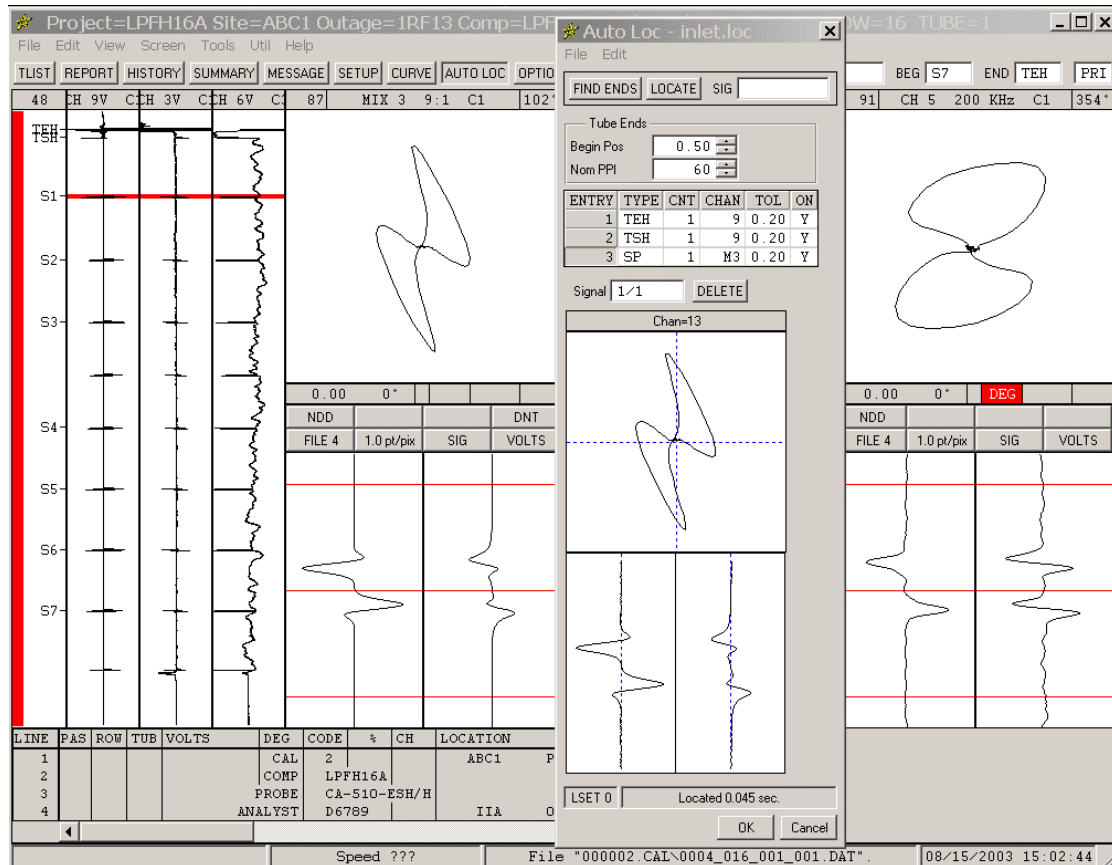

Figure 1-29. Auto-locate - Training Tube Support Structures
STEP 20: Click the **LOCATE** button. As shown in Figure 1-29, all, but possibly 2 of the tube supports, should appear in the *Landmark* strip at the correct locations in the data file.